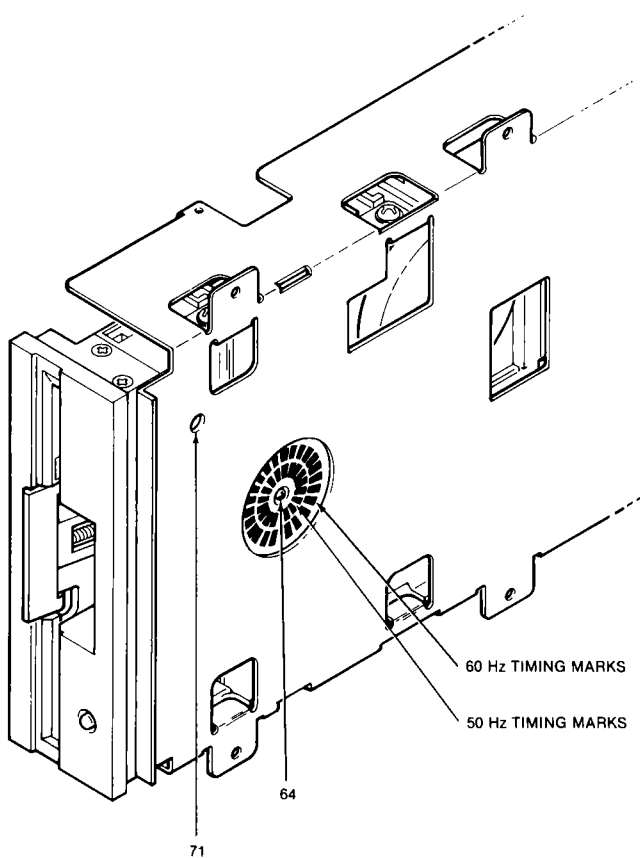
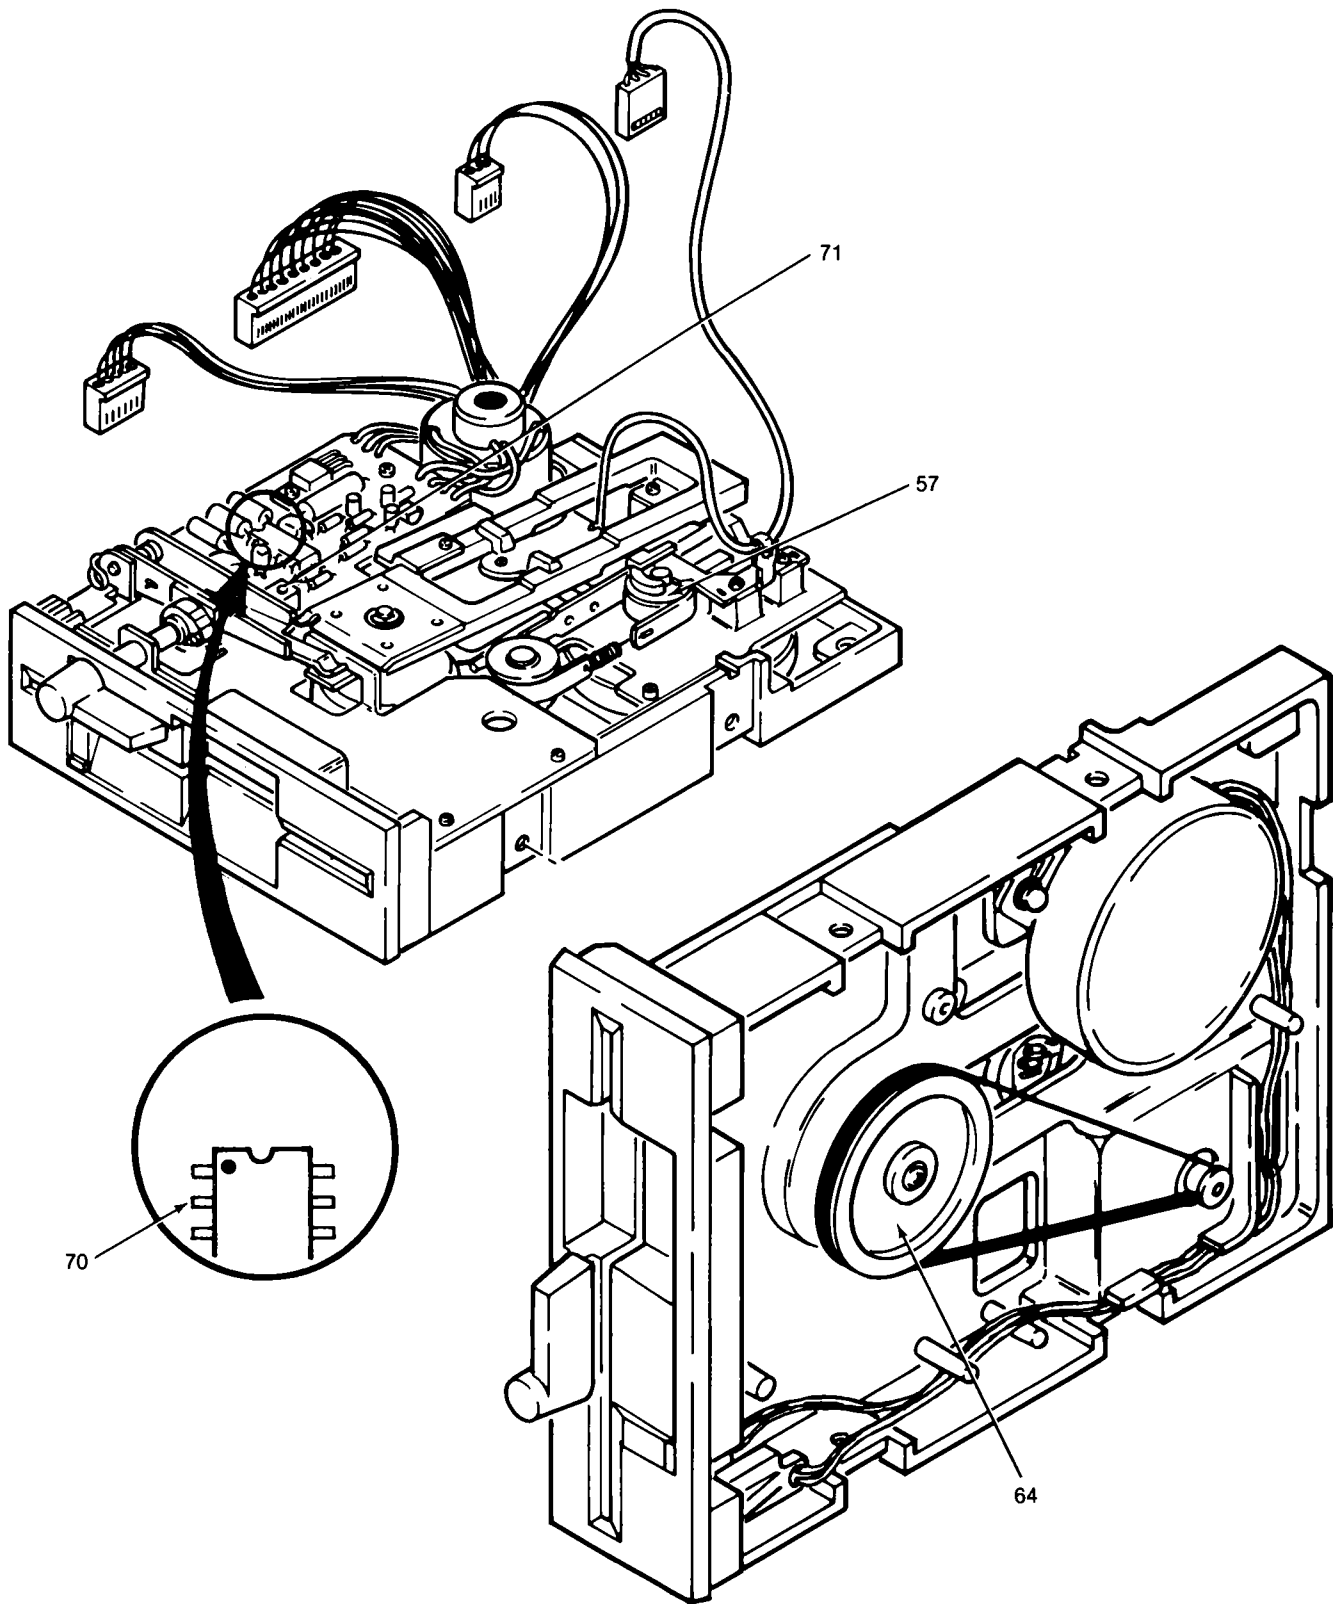
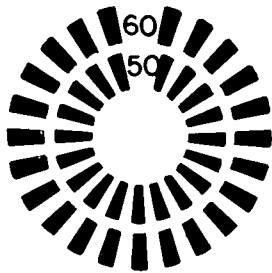

Fig. 3-2. Disk speed adjustment, Models 1540 and 1541.
Fig. 3-3. Disk speed adjustment, Model 1542.
Fig. 3-4. Timing disk (actual size).
Before starting this step-by-step procedure, a few words about an alignment reference. Models 1540 and 1541, equipped with an Alps drive, have a timing disk adhered to the flywheel (see Fig. 3-2, Item 64). Under a fluorescent light, the timing marks on the timing disk appear to stop when the disk is rotating at the correct speed. A battery-operated fluorescent lamp will not work as a reference because the lamp must be powered by the ac line. If a fluorescent lamp is not available in your work area, you may use your TV or monitor. To use the TV/monitor as a reference, change the screen color to white using the following command:
drive, that do not have timing disks (see Fig. 3-3, Item 64). Two procedures will remedy this. One option is to photocopy or trace Fig. 3-4, cut out the copy, and adhere the illustration to the flywheel, using rubber cement or two-sided tape only. Do not allow either the adhesive or the tape to interfere with the drive belt. The other option is to use a frequency counter as a reference. To do this, connect the frequency counter to pin 2 of the governor IC (see Fig. 3-3, Item 70). The disk is rotating at its proper speed when the frequency counter displays 367 Hz.
3. Prop the disk drive on its left-hand side as shown in Fig. 3-2. The left-hand edge may be propped up with a book or magazine.
11. Adjust VR1 (Item 71, see Fig. 3-2 for Models 1540 and 1541 or Fig. 3-3 for Model 1542) until the timing marks stop or the frequency counter displays 367 Hz, whichever reference is applicable.
The VIC-1541 disk drive frequently goes out of alignment because of the track select mechanism. The stepping motor drive wheel (Fig. 3-3, Item 57) is aluminum and is press-fit onto a stainless steel shaft. As the VIC-1541 heats up, the aluminum pulley expands faster than the shaft, causing the pulley to loosen slightly. When the pulley is loose and hits the track No. 1 stop (Item 61), it slips on the shaft. The result is a misaligned read/write head. At first glance, the track No. 1 stop appears to have moved because the gap between the pulley and stop increases, but this is seldom the case. Out of over 80 malfunctioning VIC-1541 disk drives I have repaired, fewer than 10 were due to problems other than the pulley slipping on the shaft.